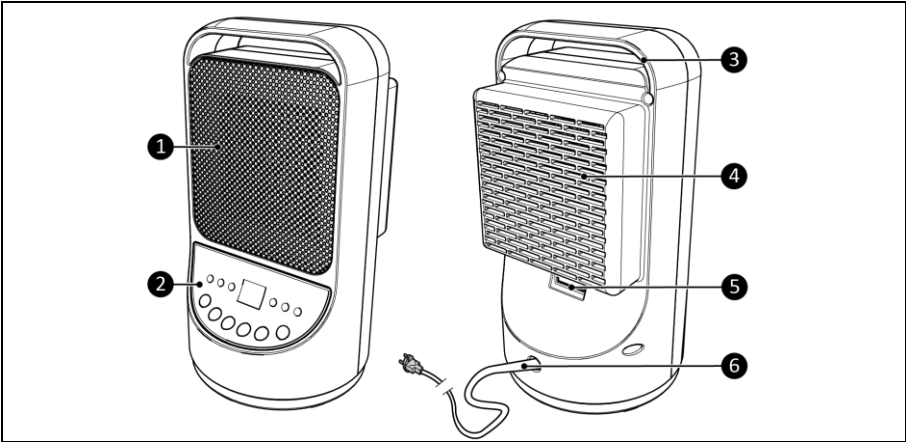

Figure 2
2. Make sure the main switch of the device (Figure 2, pos. 5) is OFF;
4. Place the power plug (Figure 2, pos. 6) into a wall socket that is easily accessible. Use a wall socket with a minimum power of 1500 Watt.
1. Turn on the main switch on the back of the device (Figure 2, pos 5).